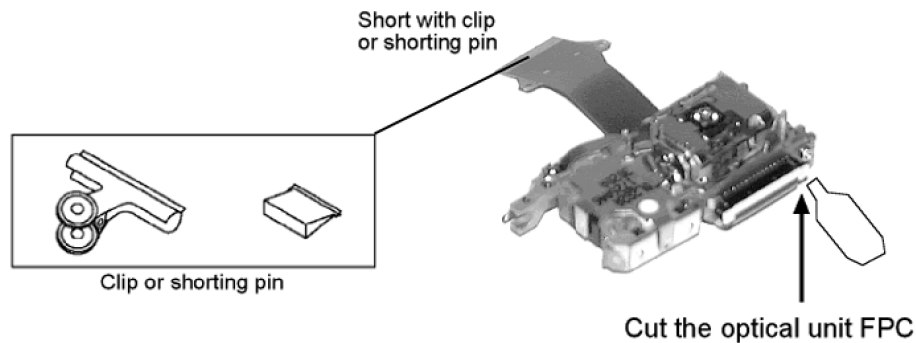

Fig. 7.1
2. Short-circuit the flexible cable of optical pickup remove from the circuit board using a short-circuit pin or clip in order to prevent laser diode from electrostatic destruction (Refer to Fig. 7.1 and Fig. 7.2)
3. Do not handle flexible cables forcibly as this may cause snapping. Handle the parts carefully (Refer to Fig. 7.1)
4. A new optical pickup is equipped with an anti-static flexible cable. After replacing and connecting to the flexible board, cut the anti-static flexible cable. (Refer to Fig. 7.1)